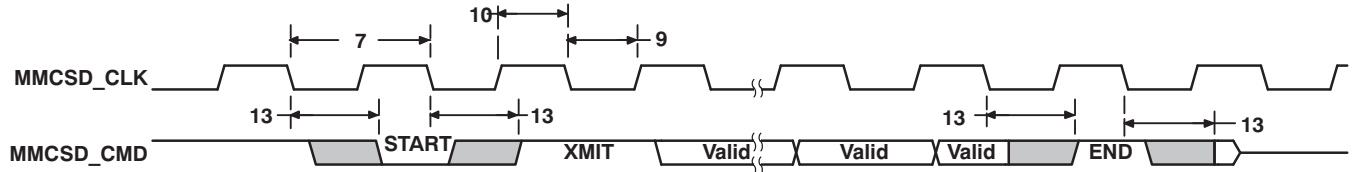
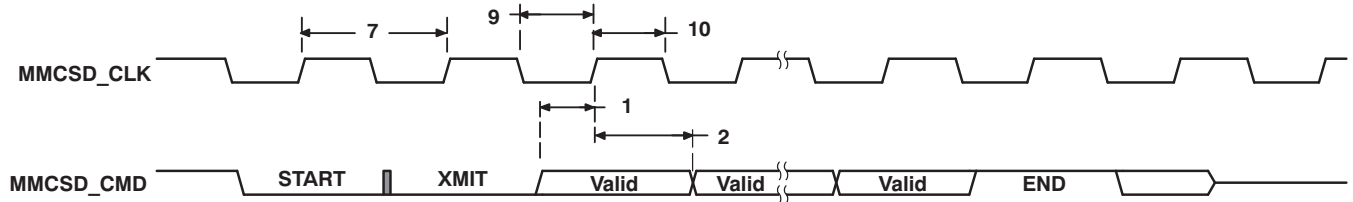
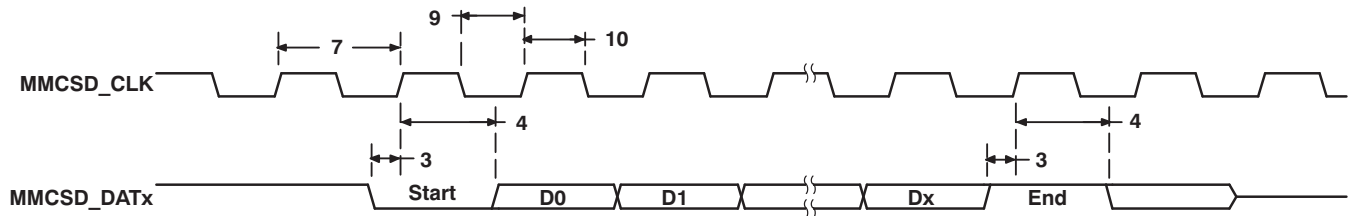

Figure 5-26. MMC/SD Host Command Timing
Figure 5-27. MMC/SD Card Response Timing
Figure 5-29. MMC/SD Host Read and Card CRC Status Timing
(see Figure 5-27 and Figure 5-29)
**Table 5-43. Switching Characteristics for MMC/SD** (see Figure 5-26 through Figure 5-29)